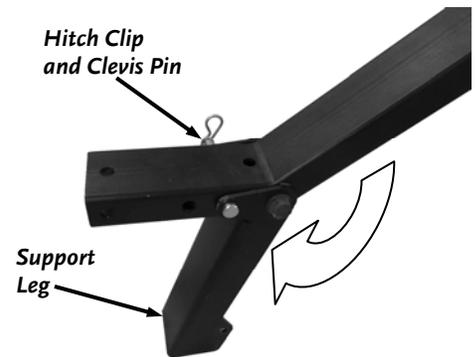

Figure 9
3. Pull the Hitch Clip and Clevis Pin from the Leg and fold it to the down position. Align the holes and secure the Leg with the Clevis Pin and Hitch Clip (**Figure 9**).